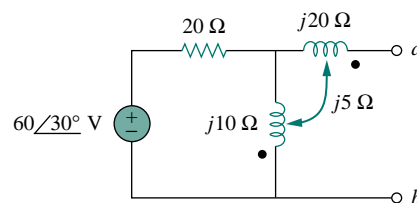

Figure 13.82 For Prob. 13.12.
- 13.12 Find the Norton equivalent for the circuit in Fig. 13.82 at terminals $a-b$.